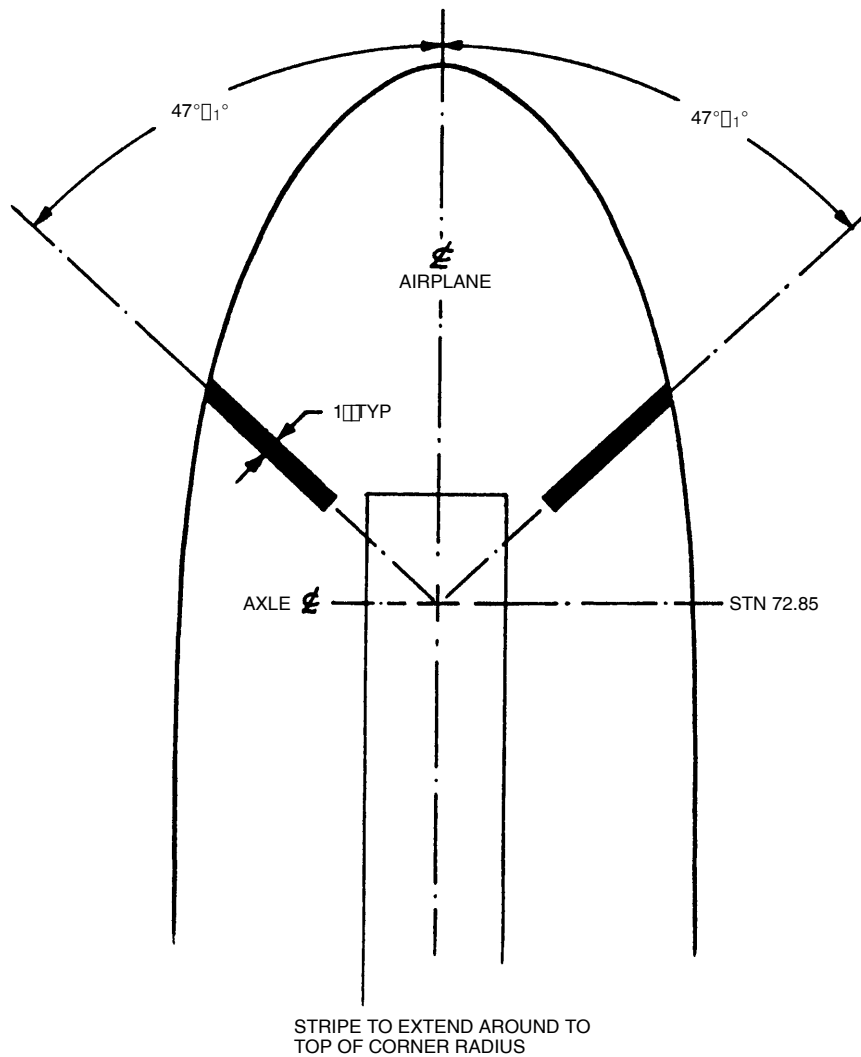

Figure 1
- E. Drill and ream 0.1907/0.1900 inch dia (H8) for bolts (item 5) through channel (item 1) and block (item 2).
- F. Remove temporary fitted bolts and refit pulley, existing spacer and pulley cable guard, then trim new spacer (item 3) to length so that clamping of the spacer occurs simultaneously with seating of the channel flanges against the bulkhead face as the bolt is tightened.
- G. When this condition has been obtained, assemble and finally secure the channel, with items 6, 8 and 9, and rivets (item 10).
- H. Refit and secure items 5, 8 and 9. Wirelock bolt (item 4) as shown on GAF Drawing N-45-1389.
- Refer Paragraph 1 (d), Chap 9-00-00 Page 1 of Maintenance Manual which limits tow bar angle to 49 deg. either side of aircraft centre line. Paint two yellow stripes under nose of aircraft as defined in Fig 1 of this Service Bulletin.